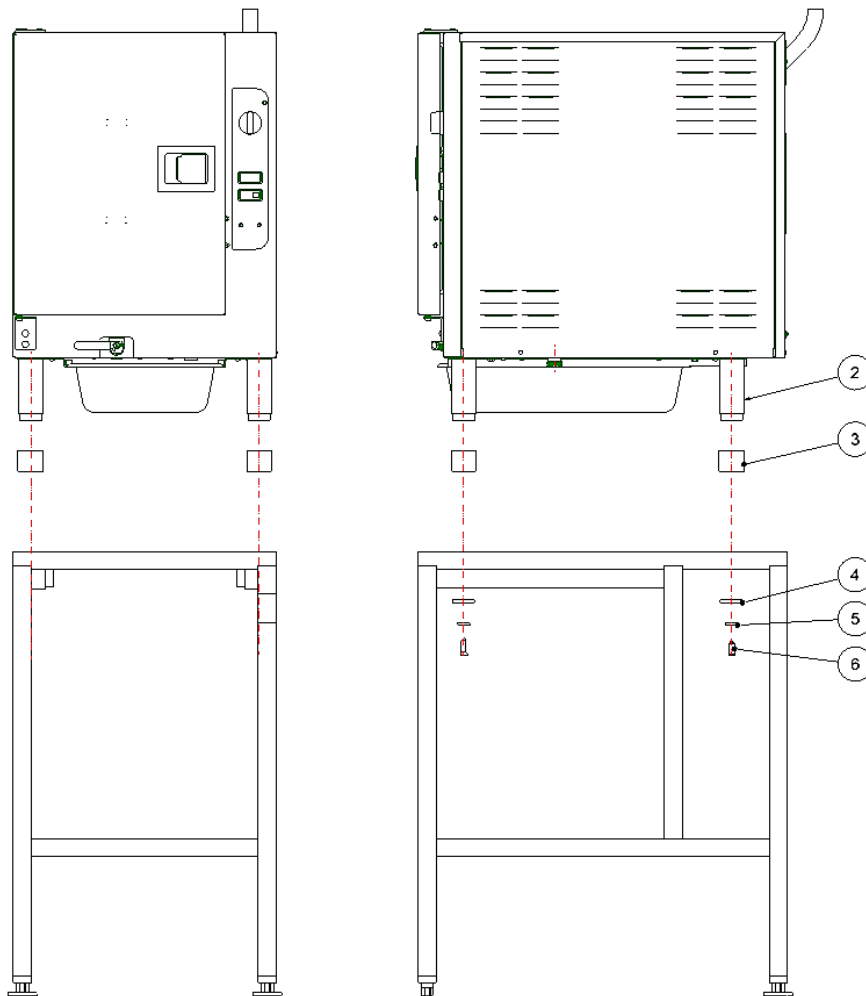

Figure 2
3. Screw four legs with new stainless-steel adapters of 22CCT6 steamer into nuts inside bottom of steamer as shown in Figure 2.
5. Rest the stainless-steel foot adapters from each leg of the steamer onto stand so the foot adapters holes are concentric with the holes on Unistand34 and resting on the top of stand. (See Figure 2)